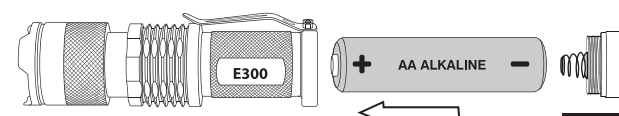

Fig. 6
**Battery Installation:** Insert one battery by inserting the “+” end into flashlight first as shown (Fig. 6). Replace tailcap by turning clockwise.